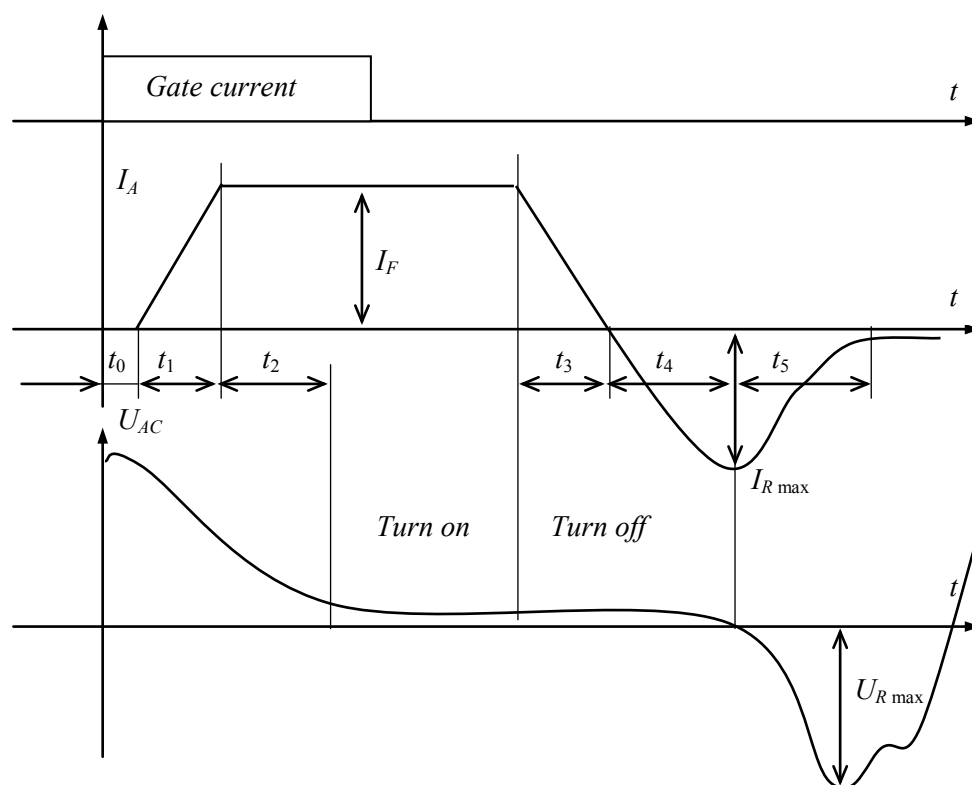

Fig. 1.51
**Transients.** Fig. 1.51 reflects the current and voltage transients of a thyristor when it turns on after the gate pulse appears and turns off after the current direction changes. During the thyristor opening process, the anode current will be distributed through the full crystal surface at the speed near  $100 \mu\text{m}/\mu\text{s}$ . The current distribution is not homogeneous. The local overloading is possible; therefore, the growing rate of forward current  $I_F$  should be limited by hundreds of amperes per microseconds. For the best control of the thyristor firing process, the gate electrode has a specific spreading shape. The turn-on process includes three time intervals – the turn-on delay  $t_0$ , the current rise time  $t_1$ , and the current spreading time  $t_2$ .
Commonly, the turn-on process of the GTO thyristor is the same as for the rectifier thyristor. The process includes the turn-on delay, the current rise and the stabilizing interval, similarly to those shown in Fig. 1.51. The switching speeds are in the range of a few microseconds to 25  $\mu\text{s}$ . It is a sufficiently fast switching time. A switching frequency range is a few hundred hertz to 10 kHz. The on-state voltage drop (2 to 3 V) of the GTO thyristor is higher rather than that of the SCR.